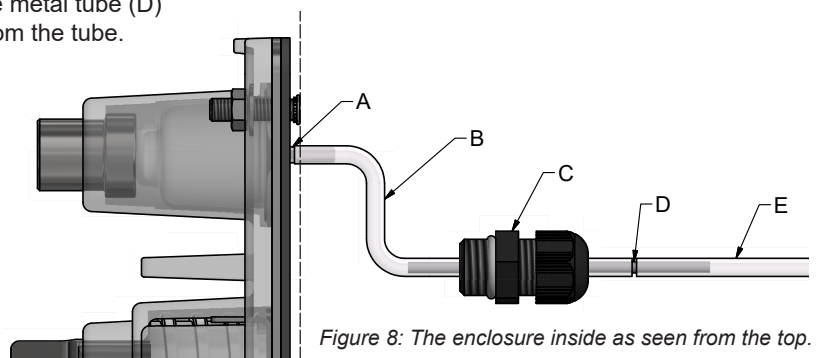

Figure 8: The enclosure inside as seen from the top.
1. Cut a piece of the supplied hose to part 1 of the starter hose (B), not the part, see figure 8.
2. Mount the starter hose part 1 to the connection nipple (A) in the enclosure.
3. Thread the other end of the starter hose onto the metal tube (D) and allow about a third of the tube to protrude from the tube.
4. Thread the hose with the pipe through the cable gland (C) located in the plug. The pipe must be placed in the middle of the cable gland with a bit of hose B outside, see the Figure.
7. Thread the starter hose part 2 (E) on that part of the tube which protrudes from the cable gland.